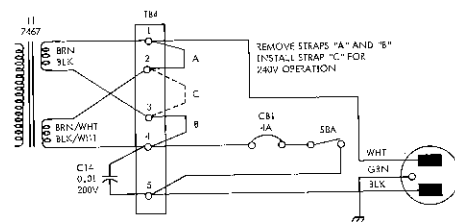

Figure 4. Converting to 240V, 50/60 Hz Power
3. Remove strap "A" connecting terminals 1 and 2, and remove strap "B" connecting terminals 3 and 4; then solder strap "C" to terminals 2 and 3 (see Figure 4).